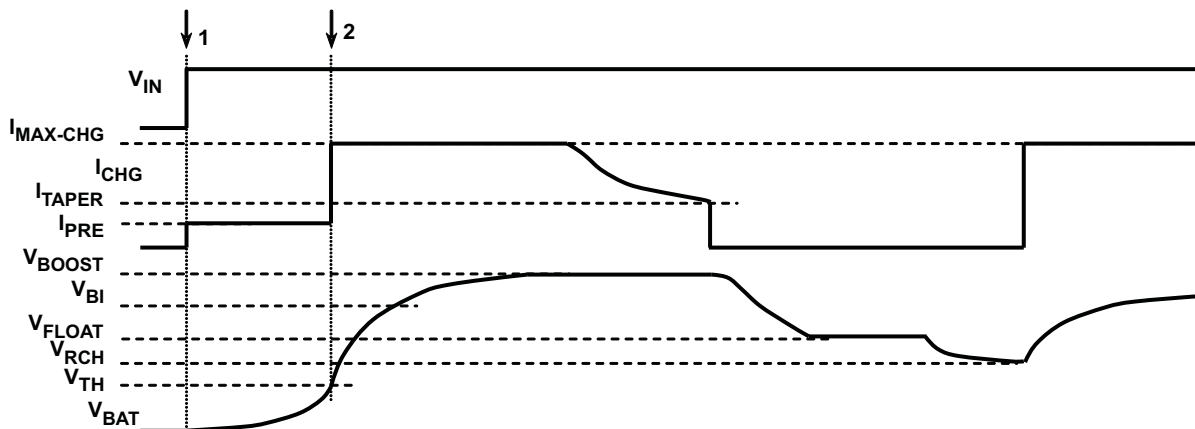

Figure 7.
Once the battery voltage rises above a safe threshold  $V_{TH}$  at (2) in Figure 7, the enable comparator turns OFF Q3 and Q4, thus turning OFF Q5 and enabling Q1.  $Q_{EXT}$  then provides  $I_{MAX-CHG}$ , and the circuit after this performs as described before.